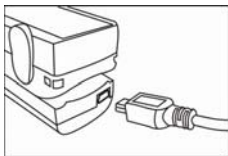

Fig.18
4.2.1 Connect the Oximeter with attached the USB cable, as shown in Fig.18.